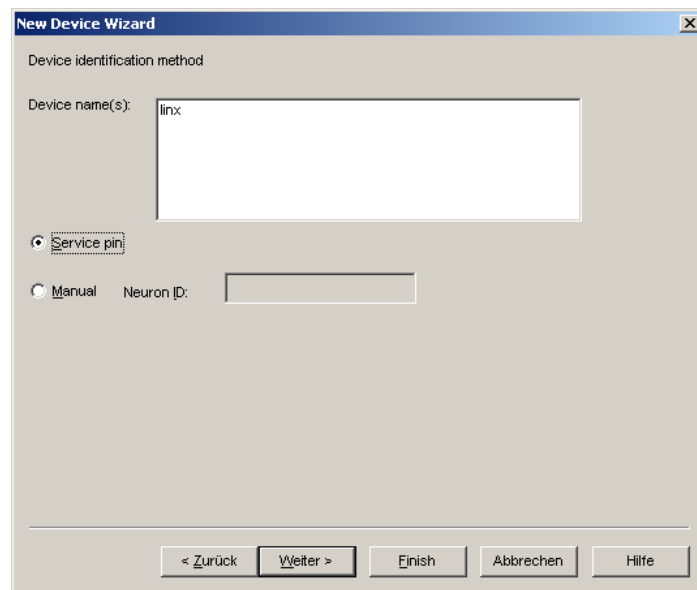

Figure 83: Use Service Pin.
6. Check Service Pin as the device identification method as shown in Figure 83 and click **Next**.